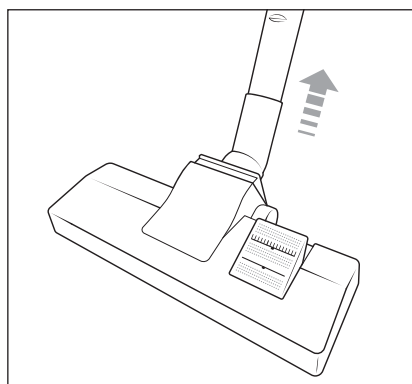

Fig. 7
- ◆ To remove the floor brush **14** from the telescopic suction tube **16**, pull the telescopic suction tube **16** off the floor brush **14** (see Fig. 7).